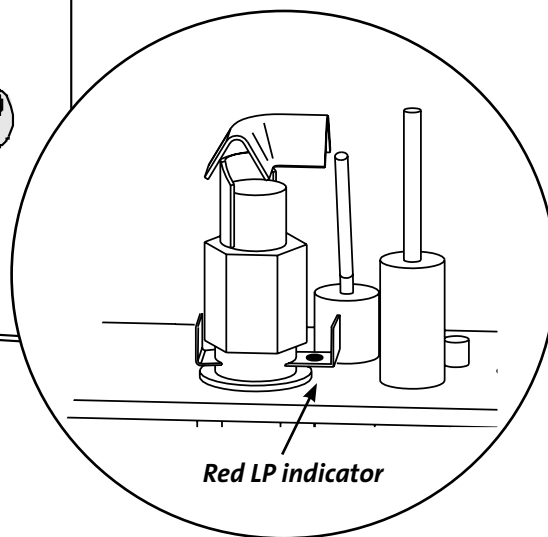

Figure 7.3.
See fig. 7.3. Using a 1/2" open end wrench or deep-well socket, remove the burner injector from the brass elbow and replace it with the injector supplied in the conversion kit.
6. **PROPANE ONLY: Install the 1/2" Air Shutter Lock Screw (Fig. 7.3)** provided in the LP Conversion Kit. The screw automatically sets the new, minimal shutter opening.
7. **Convert the dual-fuel pilot orifice.** Fig 7.3.